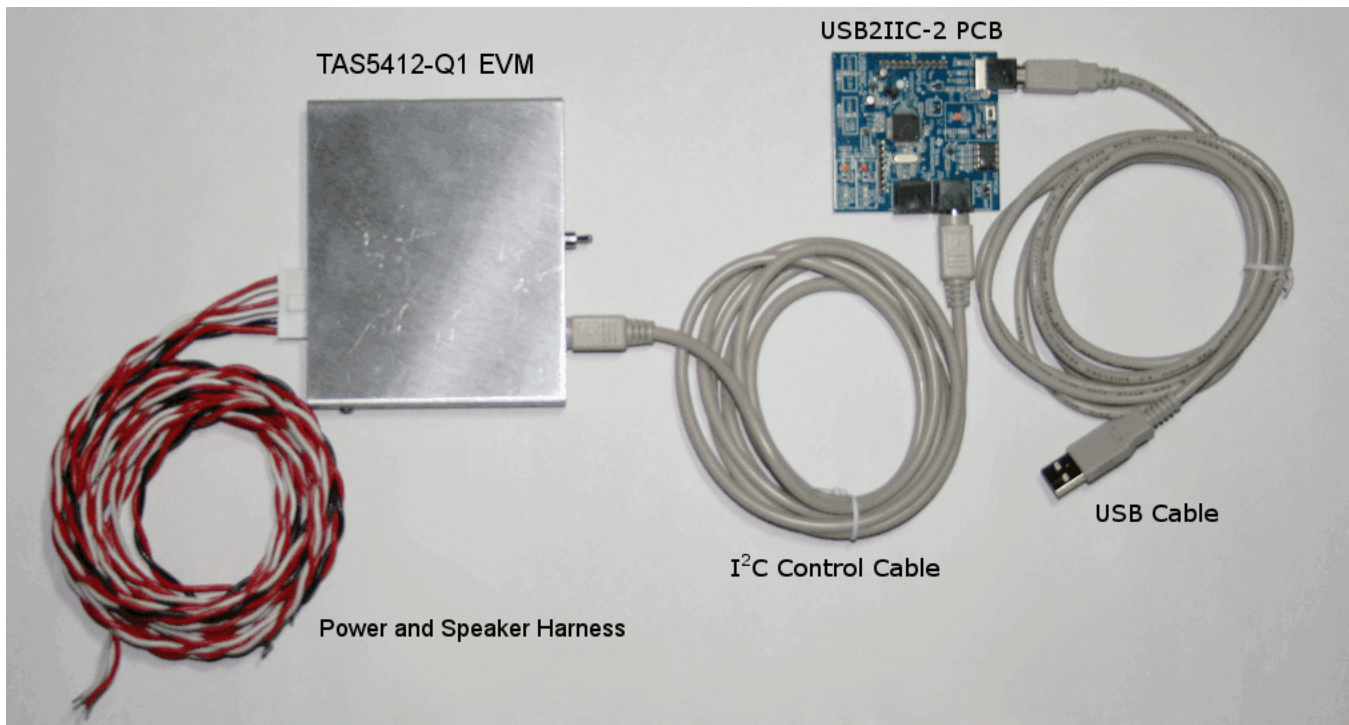
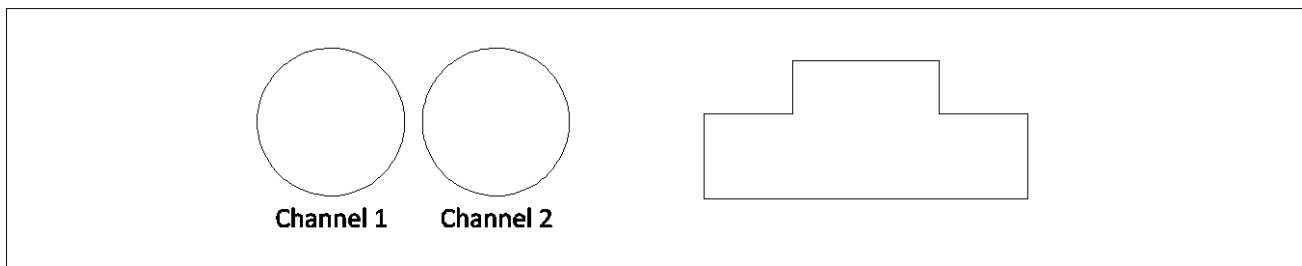
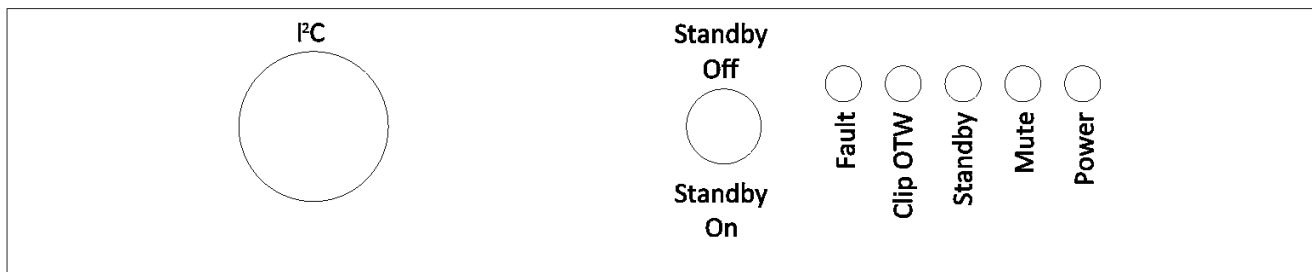

Figure 1. EVM Connections
Figure 2. End Panel for Input and Output Connections
Figure 3. End Panel for I²C Connections
The EVM consists of a single printed-circuit board (PCB) mounted inside a metal chassis for EMC testing. The EVM must have an external I²C controller board to function. The USB-to-I²C controller board connects to a personal computer (PC) through a USB cable. The EVM connects to the I²C controller through a supplied 6-pin DIN cable. The PC needs the graphical user interface (GUI) software to control the EVM. See Figure 1 for the device connections.
The basic connections are: PVDD or power connects to the EVM through the supplied six-pin connector with the twisted red and black wires. The speakers or loads also connect through the same six-pin connector with the twisted red and white wires. The six-pin DIN connects to the I²C-to-USB adapter board. See Figure 2 and Figure 3 for EVM connection details.
Before applying power, check to make sure the Standby control switch is in the Standby Off position, as shown in Figure 3. If the switch is in the Standby On position, then at power up the I²C LED indicator on the GUI is red (see Section 2.2.4.3, Connection Status Panel, for more details).
See Figure 1 for the location for the power connector, Figure 5 for more details about the speaker cables, and Figure 2 for the speaker-cable connections to the EVM.
In the EVM package is a small PCB labeled USB2IIC-2. This is the USB-to-I²C converter used to communicate with the EVM. Connect the USB cable to the PC and the PCB. Connect one end of the six-pin cable to the socket labeled I²C on the converter PCB. Connect the other end to the six-pin socket on the EVM. The USB connection provides power for this card. The PC should automatically connect to the USB-connected PCB. See Figure 1 for more details.